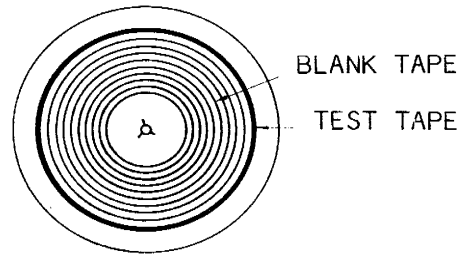

Figure 7-2 Test Tape Loading
Since tape tension affects tape speed, it is important for accurate measurement that the flutter test tape used is attached to the end of a full wound reel of blank tape as shown in Figure 7-2 , and is used with the REEL pushbutton set to the appropriate reel size.
4. Attach the test tape to a 10 1/2 inch NAB reel as shown in Figure 7-2 , place the test tape on the supply reel table, thread the tape, and set the REEL switch to the "OUT" LARGE position.
It is important that the flutter test tape used is attached to the end of a full wound reel of blank tape as shown in Figure 7-2, and is used with the REEL pushbutton set to the appropriate reel size.
4. Attach the test tape to a 10 1/2 inch NAB reel as shown in Figure 7-2, place the test tape on the supply reel table, thread the tape, and set the REEL switch to the "OUT" LARGE position.